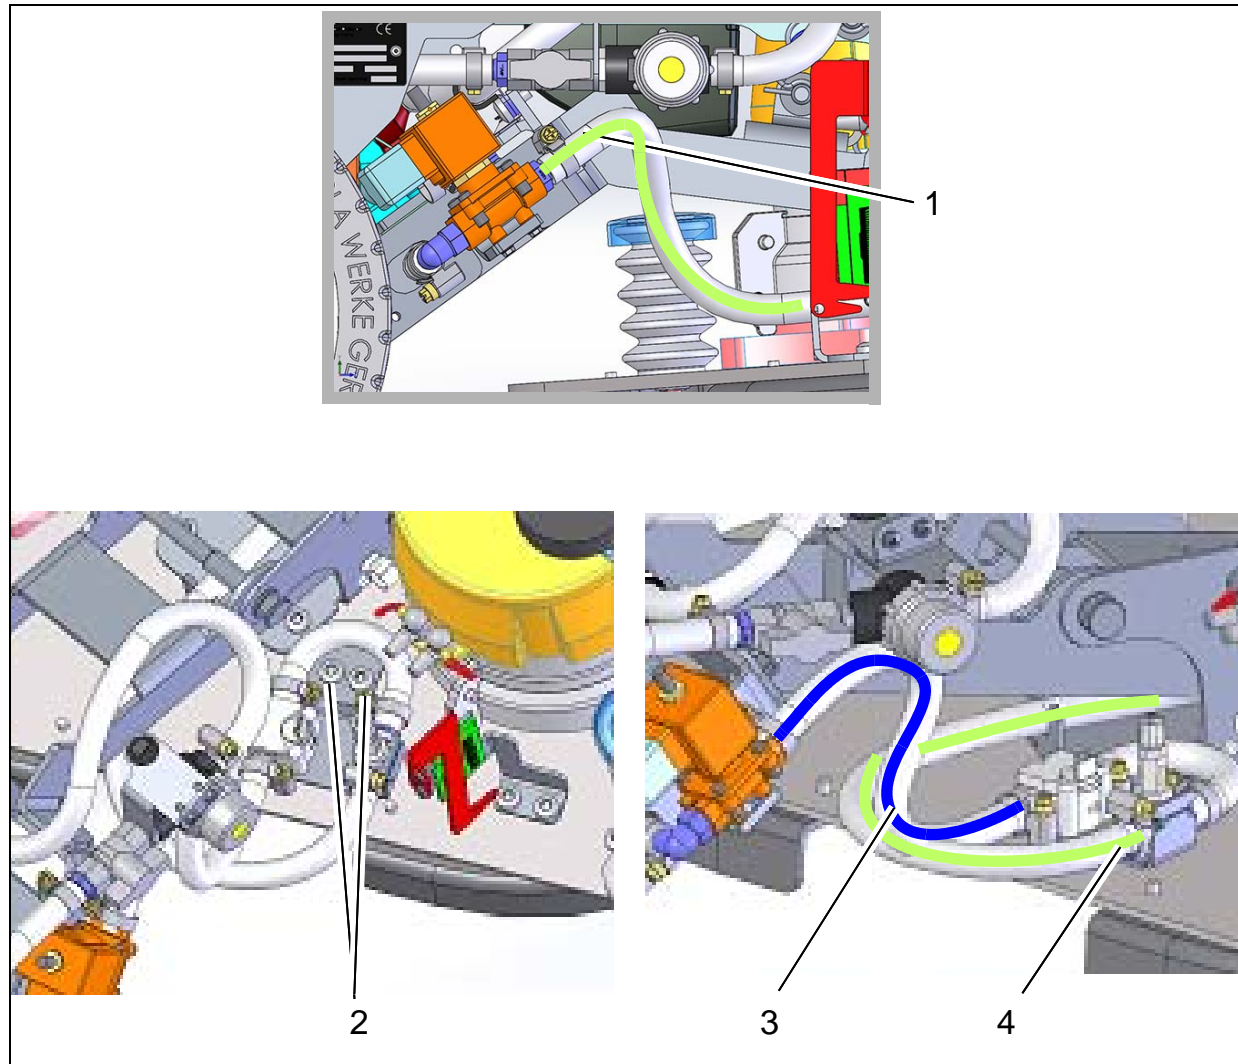

Fig. 2
Remove hose from solenoid valve (Fig. 2/1).
1. Secure assembly unit to the rotating brush unit with the two M8x16 flanged button head bolts (Fig. 2/2).
2. Connect the hose of the flow sensor to the solenoid valve (Fig. 2/3).
3. Secure hose removed from solenoid valve to the screw-in nozzle of the non-return valve (Fig. 2/4).